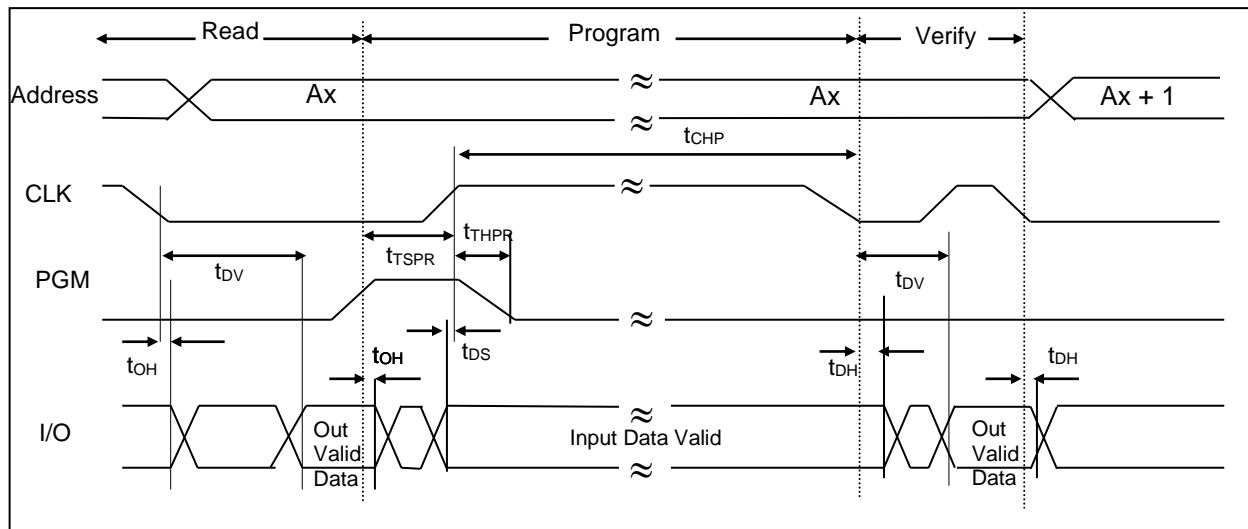

Figure 7: Write/Erase Timing Diagram
This flag is set to '1' after the Security Code (SC) is validated (see Figure 7). This flag protects an impersonalized card from unauthorized usage. If the card has already been personalized, this flag provides master protection for the application zones (refer to Memory Access Table).
This flag is set to '1' after the Application Zone 1 Security Code (SC1) is validated (see Figure 7). This flag provides access protection for Application Zone 1 (refer to Memory Access Table).
This flag is set to '1' after the Application Zone 'n' Erase Key is validated (see Figure 7). This flag provides protection for Application Zone 'n' from unauthorized erasure of the zone (refer to Memory Access Table).